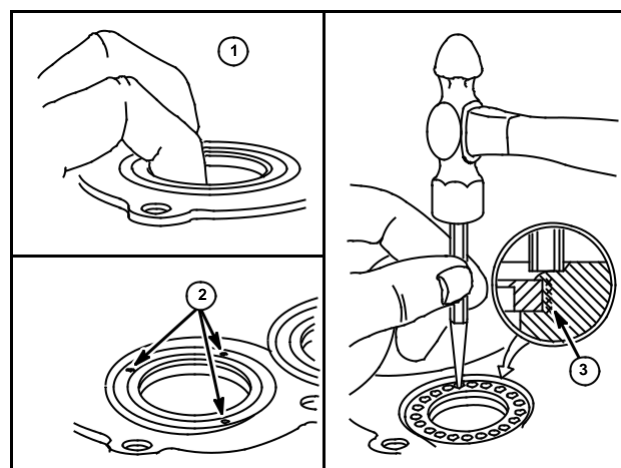

Fig. 16
5. Drive new insert until it bottoms. Top of insert will be slightly below cylinder head gasket surface. Loose valve seat can be turned or moved up or down. Check with feeler gauge (1). Use center punch to tighten insert at three points, equally spaced (2), Fig. 16.
6. Use a flat punch to peen over the edge so metal squeezes around the entire insert (3) Fig. 16.